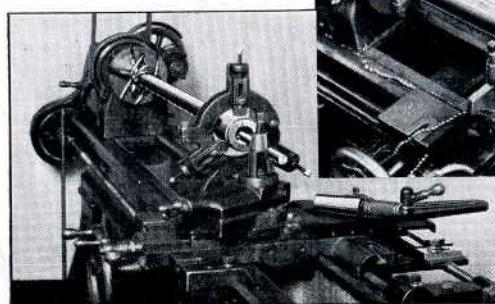
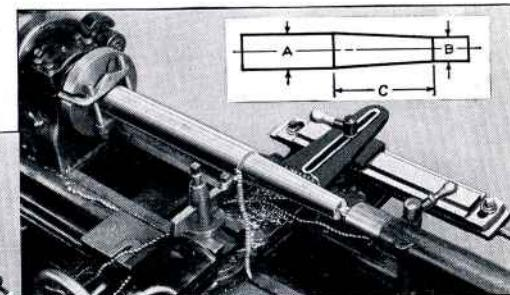
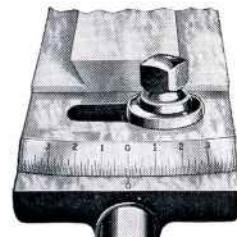

Fig. 183. Taper Turning with the Taper Attachment
Fig. 184. Boring a Taper with the Taper Attachment
Fig. 182A. Graduations in Inches per Foot on Swivel Bar
To calculate the taper in inches per foot, subtract the diameter in inches at the small end of taper (B, Fig. 183) from the diameter in inches at the large end of the taper (A); divide the result by the length of tapered portion (C) in inches, and multiply by 12. The answer is the taper in inches per foot and indicates the graduation on the "taper per foot" end of the swivel bar which should be set in line with the witness mark in order to machine the desired taper. See Fig. 182A.
Turning an outside taper is shown in Fig. 183. Boring an inside taper with the aid of a center rest is shown in Fig. 184. See page 92.